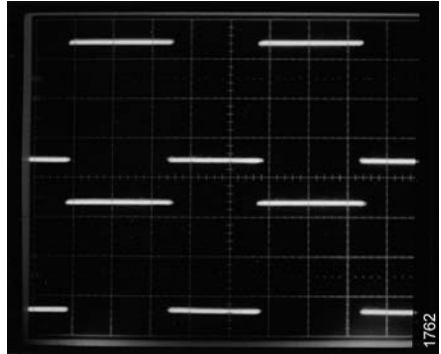

Figure 6. Two oscilloscope traces of: transmitter TP7 (top) and receiver TP1 (bottom) signals
On the transmitter board, move the tandem spring shunt that is in the JP1 position to the JP2 position. Move the shunt that is in the DISABLE position to the ENABLE position. On the receiver board, move the tandem spring shunt to the JP1 position. Turn power on to the oscilloscope and set the horizontal time scale to .2 milliseconds per division and the vertical scales to 2 volts/division for both channels. Hook up one probe of a dual-trace oscilloscope to TP7 on the transmitter circuit and the other to TP1 on the receiver circuit. (You should see two square wave signals similar to those shown in Figure 6.)
- A18. Compare the signal on the transmitter from TP7 (emitter of transistor Q1) to TP1 on the receiver and observe the received signal as depicted in Figure 6. Is the frequency the same?